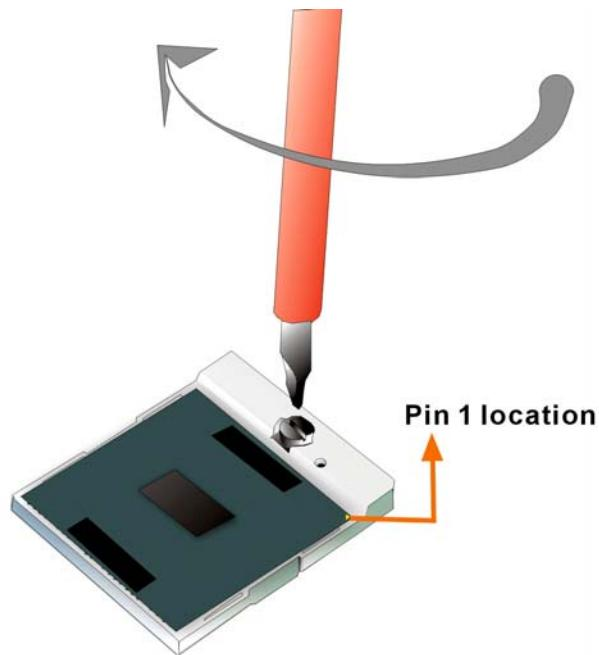

Figure 5-2: Lock the CPU Socket Retention Screw
Step 7: Lock the retention screw. Rotate the retention screw into the locked position. See **Figure 5-2**.